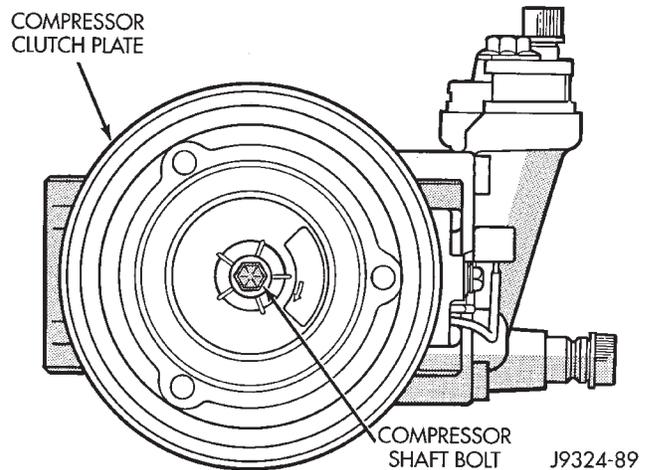

Fig. 30 Compressor Shaft Bolt
(1) Disconnect and isolate the battery negative cable.
(2) Remove the serpentine drive belt. Refer to Group 7 - Cooling System for the procedures.
(3) Remove the bolt that secures the compressor clutch to the compressor shaft (Fig. 30). A band-type oil filter wrench may be used to secure the clutch during bolt removal.